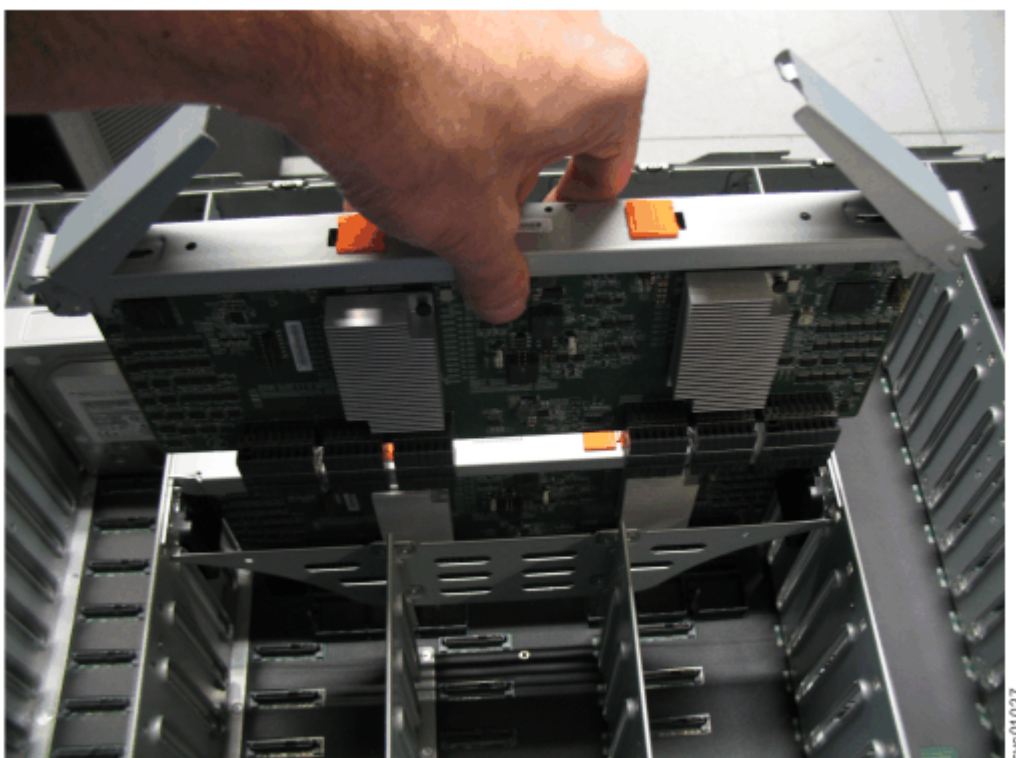

Figure 146. Remove the secondary expander module
4. Lift the secondary expander module carefully out of the enclosure, as shown in Figure 146 on page 207.